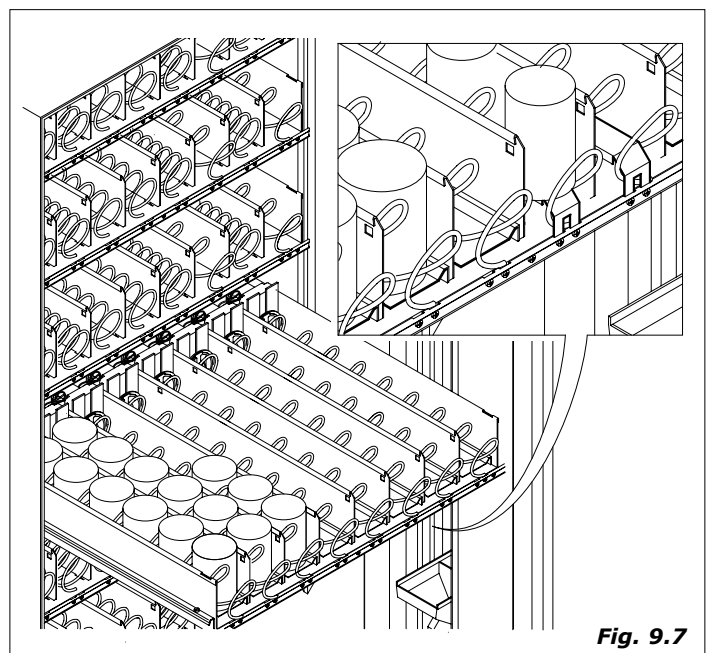

Fig. 9.7
- or supports (see fig.9.7) to help the products to slide.